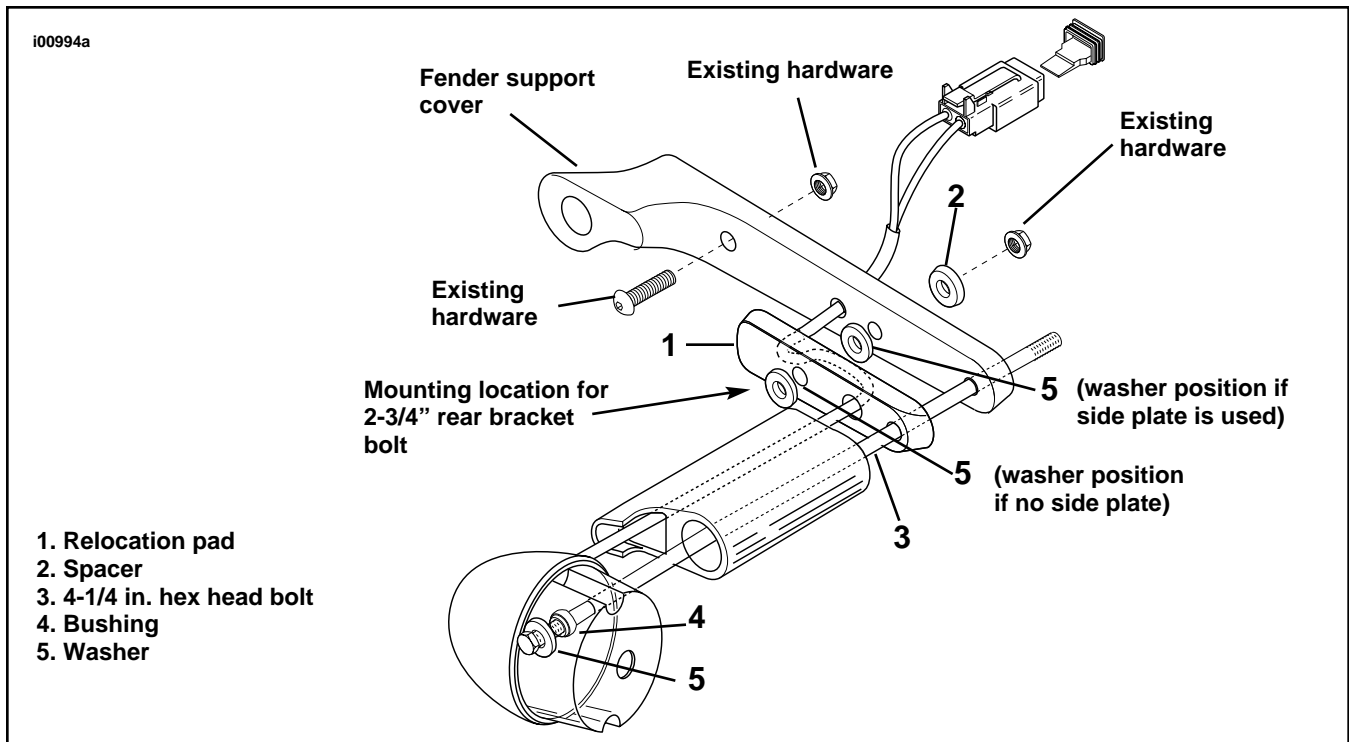

Figure 4. Installation on 1998 and later models
**All 1998 and later models,** see Figure 4. Drill out threads in turn signal housing using a 13/32 inch drill bit. Use caution not to scratch chrome surface of turn signal housing. Place thin spacer (5) and bushing (4) on 4-1/4 inch bolt (3) near threads. Install bolt through turn signal housing. Bushing should be level with inside boss in turn signal housing.
**On 1998 and later models,** see Figure 4. Place Loctite on threads of 4-1/4 inch bolt (3). Install rear directional with relocation pad (1) and fender support cover onto fender with 4-1/4 inch bolt inserted through turn signal housing in step 11.
**On 1998 and later models,** see Figure 4. Install turn signal assembly onto pad (1) using 4-1/4 inch bolt (3) inserted through turn signal housing in Step 11. Tighten bolt until snug.
14. **On 1994-1997 models,** see Service Parts illustration. Tighten 4-1/2 in. rear turn signal bolt from inside of fender to 12 ft-lbs. Install nut from kit (item 16) onto bolt at inside of turn signal housing. Tighten securely.
**On 1998 and later models,** see Figure 4. Tighten 4-1/4 inch rear turn signal bolt (3) from inside of turn signal housing to 12 ft-lbs.